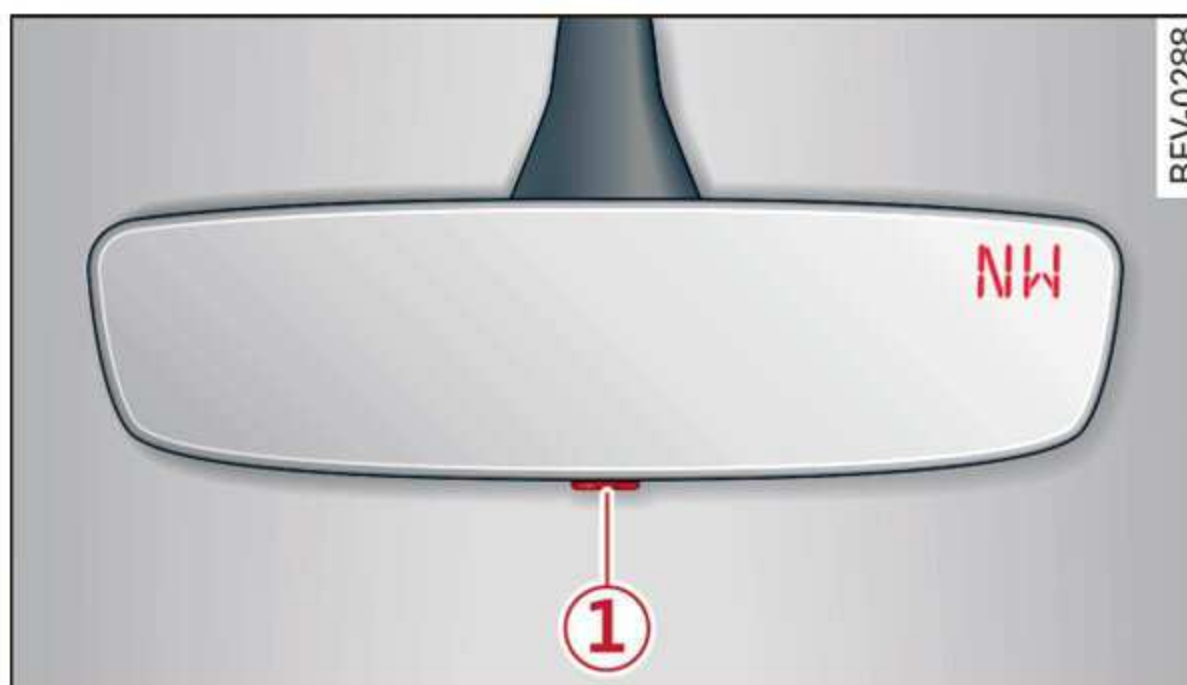

Fig. 46 Rearview mirror: digital compass is switched on
- ▶ Press and hold the button **1** ⇒ page 44, fig. 46 until the number of the magnetic zone appears in the interior rearview mirror.